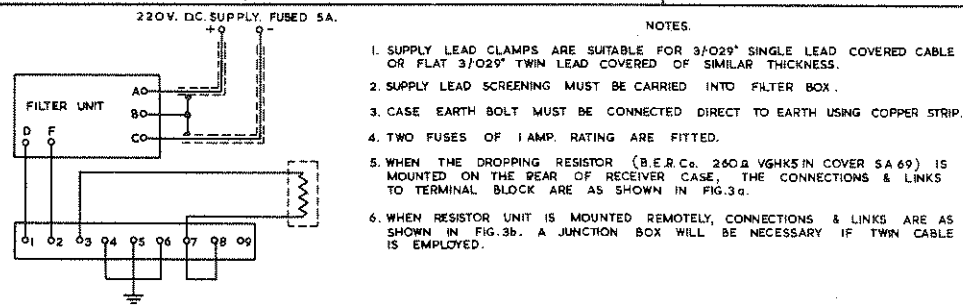

FIG. 3a 220V D.C.
- WHEN THE DROPPING RESISTOR (B.E.R.Co. 260Ω VGHKS IN COVER SA 69) IS MOUNTED ON THE REAR OF RECEIVER CASE, THE CONNECTIONS & LINKS TO TERMINAL BLOCK ARE AS SHOWN IN FIG. 3a.